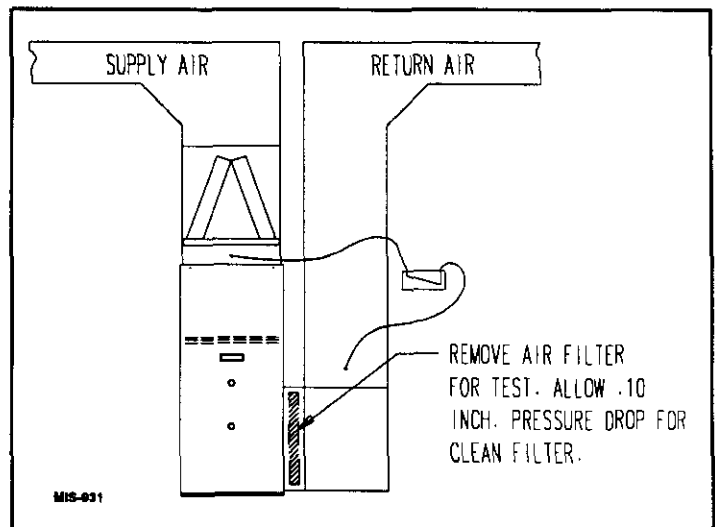

FIGURE 17—MEASURING DUCT SYSTEM STATIC PRESSURE
7. Insert one static pressure tap into supply air transition duct between furnace and cooling coil or in the supply air plenum for heating only systems. Connect this pressure tap to positive pressure side of slope gauge. See Figure 17.
8. Insert other static pressure tap in return air plenum. Connect this pressure tap to negative pressure side of slope gauge. See Figure 17.